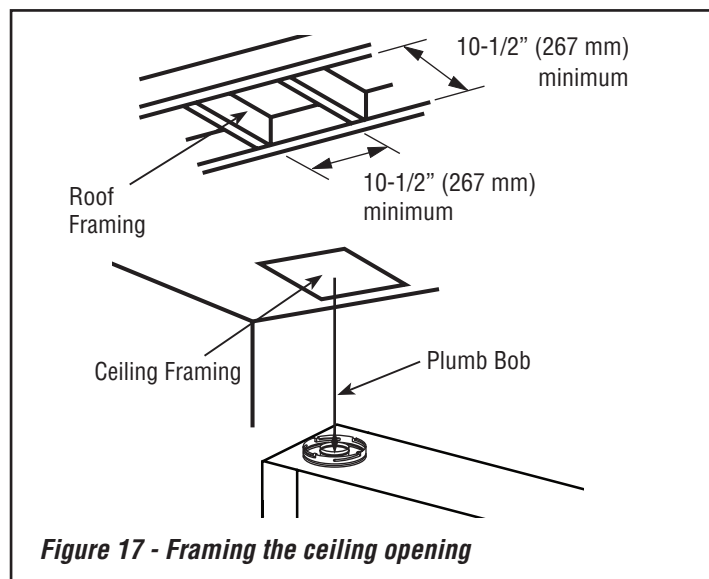

Figure 17 - Framing the ceiling opening
3. **Frame the ceiling opening**—If the vertical route is to penetrate a ceiling, use plumb line to locate the center above the fireplace. Cut and/or frame an opening, 10-1/2 x 10-1/2" (267 x 267 mm) inside dimensions, about this center (*Figure 17, Page 18*).
2. **Frame the ceiling opening**—Use a plumb line from the ceiling above the fireplace to locate the center of the vertical run. Cut and/or frame an opening, 10-1/2 x 10-1/2" (267 x 267 mm) inside dimensions, about this center mark (**Figure 17**).